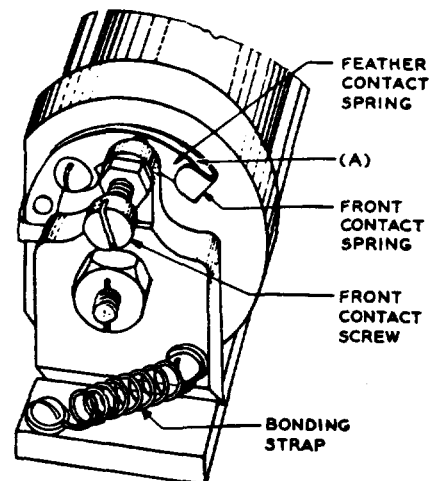

Fig. 5 - Relay With Feather Contact Spring
2.11 Feather Contact Spring Position: (108-A Relay Only) - Fig. 5 (A) - The feather contact spring shall rest against the turned over portion of the front contact spring when it is not engaged by the front contact screw.